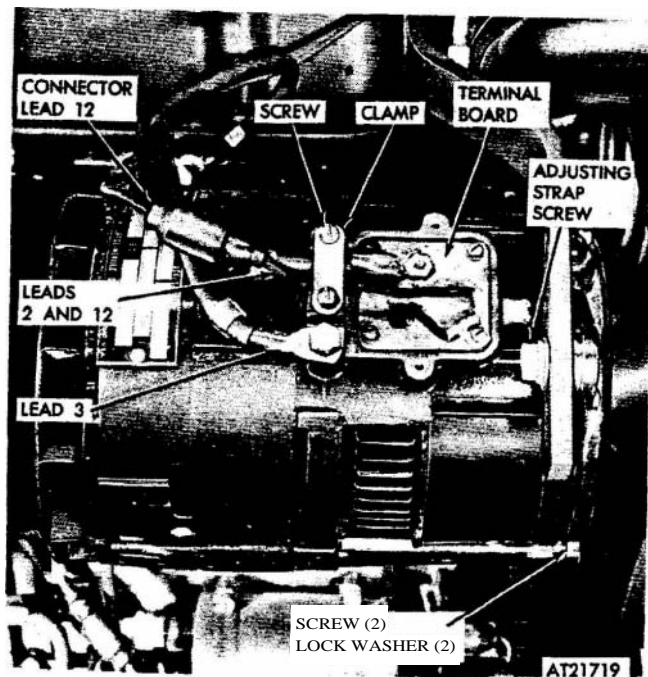

Figure 2-65. Alternator electrical connections.
Separate connector on remaining wire (fig 2-65). Install removed screws, washers, and nuts on alternator.
(20) Attach cable harness to alternator with cable clamp, two screws, and washers (fig 2-65).